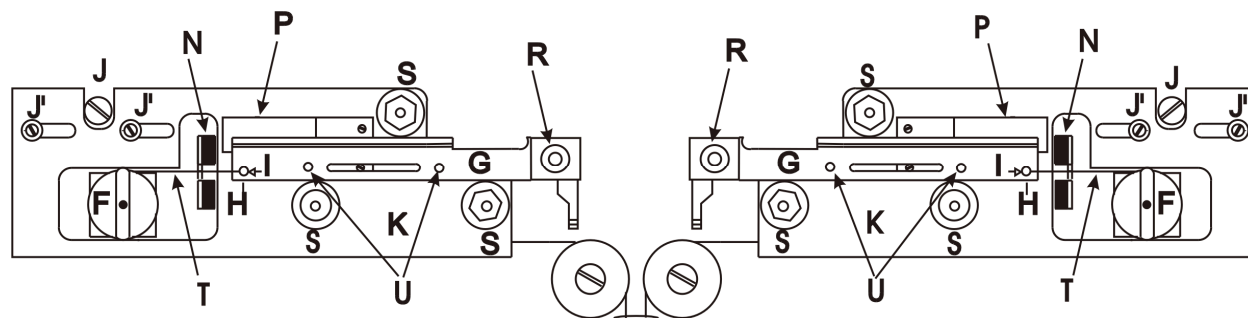

Figure 1-5. Upper cable pulley assembly.
This assembly guides the **Pulling Cables (T in Figure 1-5)** from the **Puller Bars (G in Figure 1-5)** to the centrally located (and concealed) **Lower Cable Pulley Assembly**. Note that the **Upper Cable Pulley Assembly** is attached to its panel by two screws, in slots (**J’ in Figure 1-5**), and contains a large eccentric adjustment screw (**J in Figure 1-5**). This eccentric screw is used to adjust cable ‘tension’. Its use is covered in the Maintenance Section, and changes
(K in Figure 1-5)
(N in Figure 1-5)
(P in Figure 1-5)
(G in Figure 1-5)
(S in Figure 1-5)
(T in Figure 1-5) This cable transmits the pulling force of the solenoid to the Puller Bars via the Upper (F) and Lower Pulley Assemblies. It is made of flexible metal with a nylon coating. Never pinch or distort the cable. The cable is terminated with crimped-on clamps or ‘swages’ at the back-end of each Puller Bar.